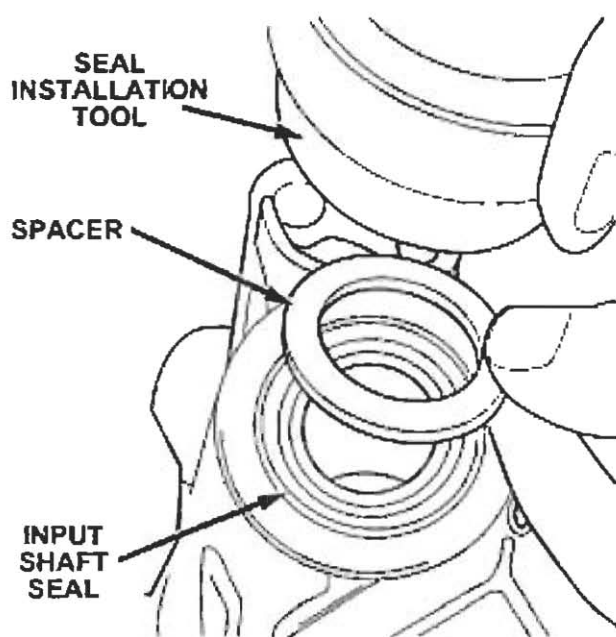

Figure 16
36. **FOR 5-SPEED TRANSFER CASES ONLY**, remove the seal installation tool and place the supplied 2.5 mm spacer on top of the input shaft seal (Figure 16). Place the tool on top of the spacer and press the seal further into the housing with the arbor press until the spacer is flush with the housing surface. Remove the tool and spacer.